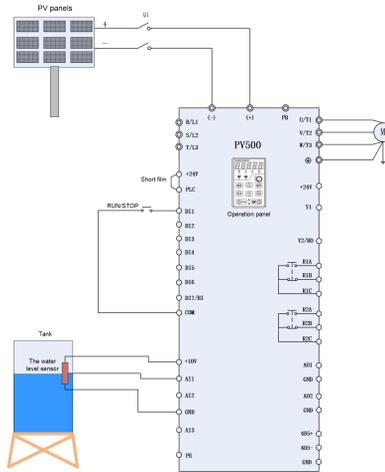

Figure 2-1 PV500
1. Please wirings as Figure2-1&Figure2-2 according to different inverter powers, check and confirm the wirings to be correct, and then close Q1.